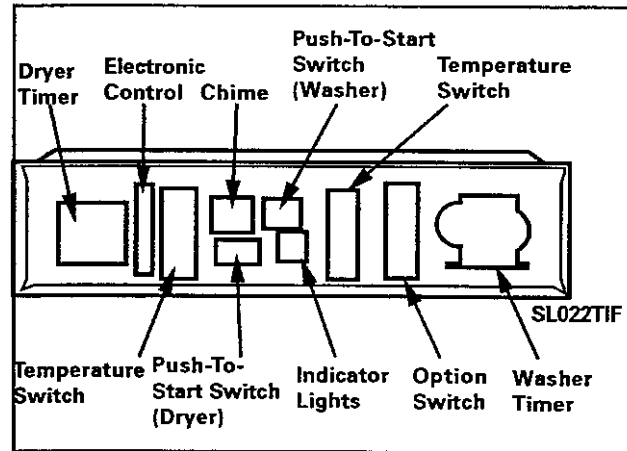

Figure 4-7
5. With the console removed, you now have access to the switches and timers in the control console *(Figure 4-7)*.